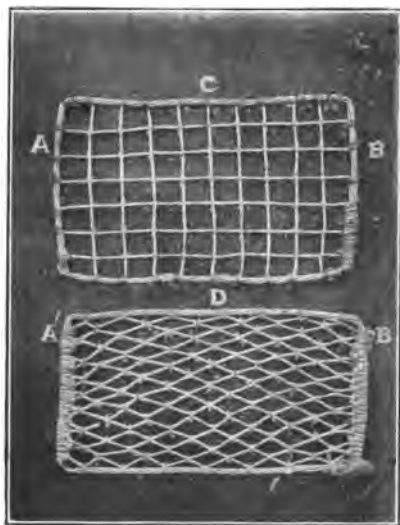

FIG. 11.—NETS.
**Nets** are either "made" nets, or "worked" nets. The former can be made on deck, by enclosing a space in the shape desired with wire. To form the mesh, ratline (or other small stuff) is stretched across the enclosure, at proper distances, first in one direction, from A to B, Fig. 11, then in the opposite direction (C to D), care being taken to keep the spaces equal. The crossings are secured with twine seizings.
Another but a weaker method of net-making is to draw the parts into the heart shape, and seize them, as in Fig 11.